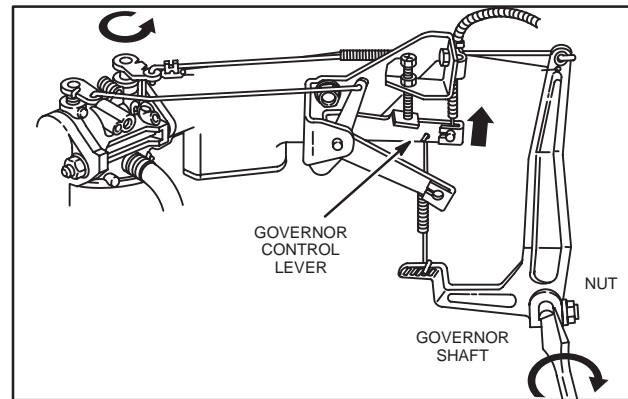

Fig. 26 – Adjusting Governor
1. Move governor control lever up to end of travel and hold in this position (throttle wide open), Fig. 26.